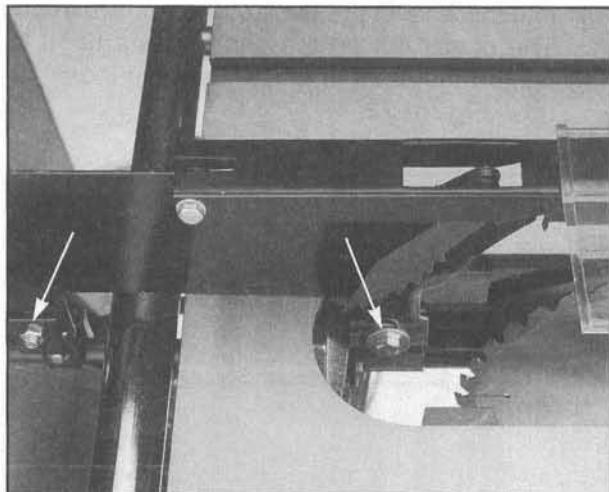

Figure 23.
3. Slip the slots at the bottom of the guard over the two mounting bolts. **Figure 23.** The washers should be between the bolt head and the slots. Rotate the support shaft to align the mounting bolts to the mounting slots on the guard.